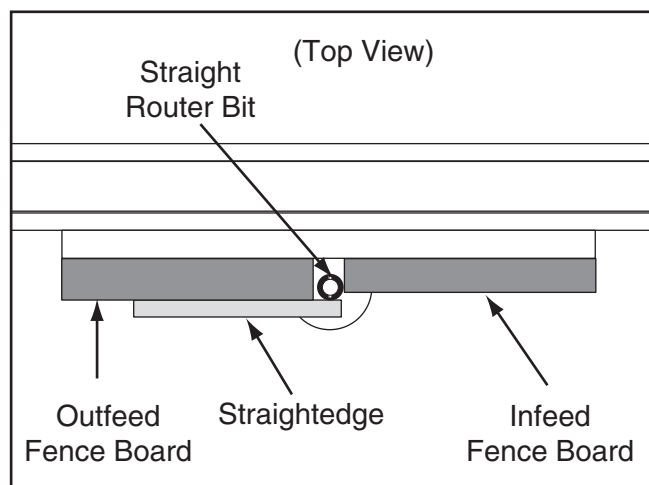

Figure 30. Fence jointer setup (guard removed for clarity).
8. Place a straightedge against the outfeed fence board, then adjust the fence assembly so that the straightedge is also against the bit flute, as illustrated in **Figure 30**.